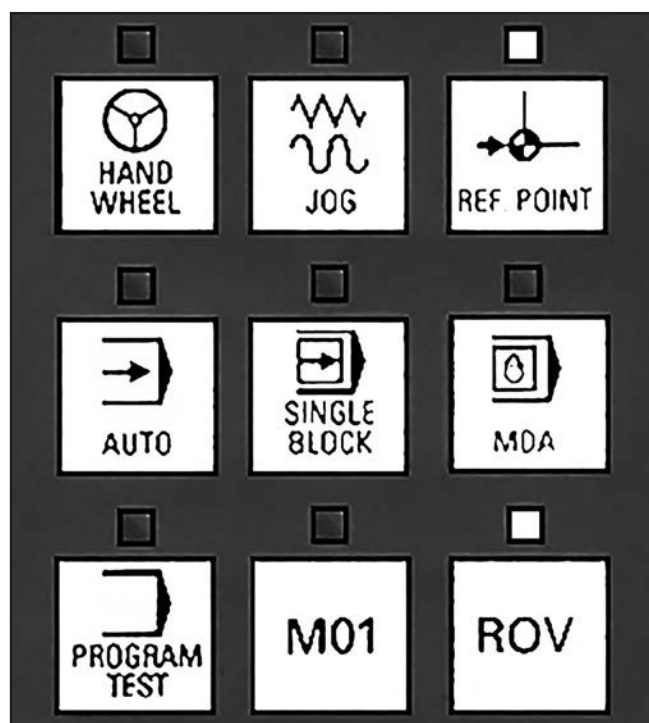

Figure 113. MCP operating mode area.
- On MCP, REF POINT and ROV lights will illuminate (see **Figure 113**).